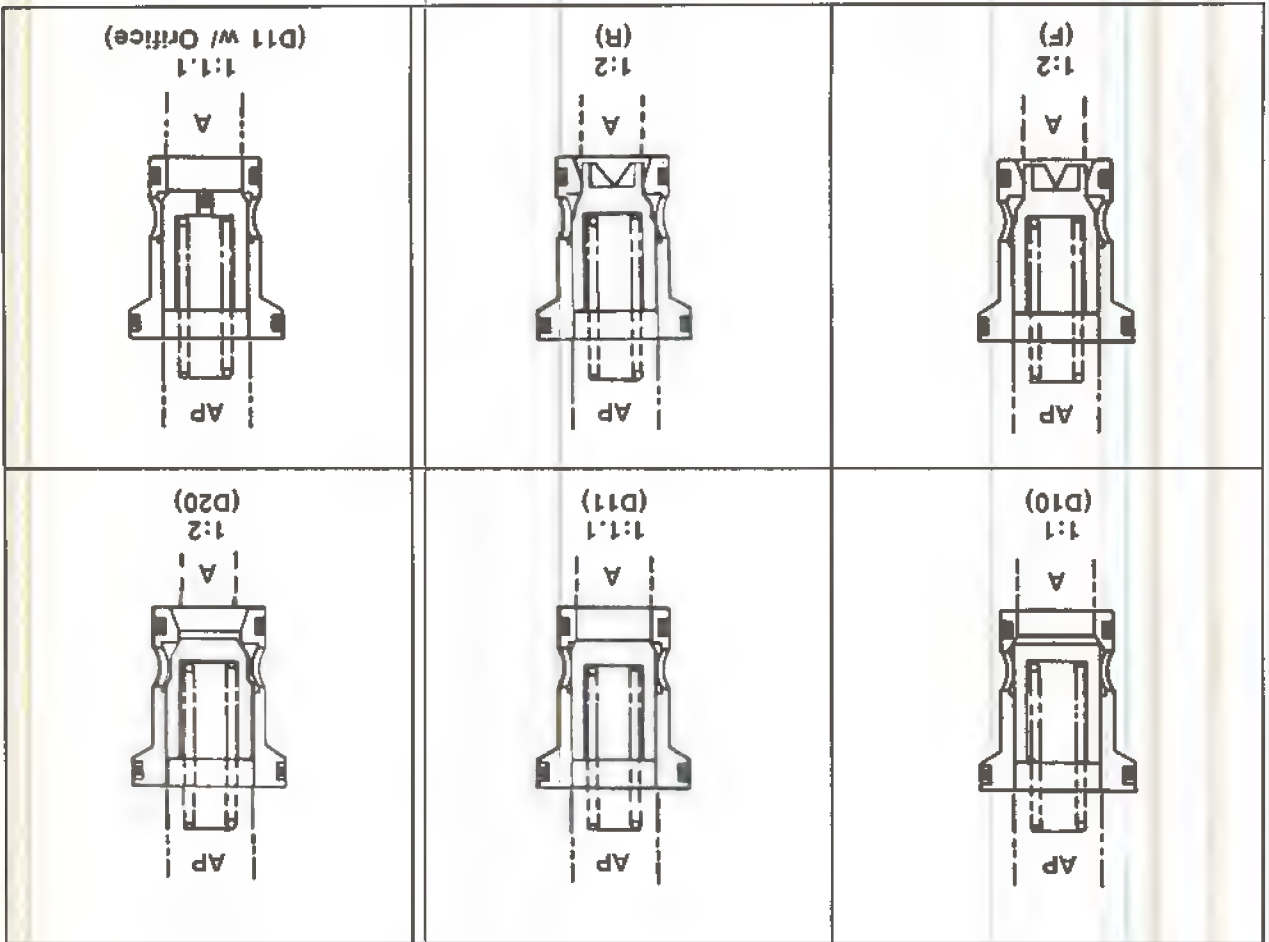

Figure 17. Poppet Area Ratios
- Determine the area ratio of the poppet. The poppet area ratio is determined by comparing (AP) area at the top of the poppet with the (A) area at the bottom of the poppet. For example, if the area at the top of the poppet is twice the area of the bottom portion of the poppet, the area ratio is 1:2. Three types of area ratios are available; 1:1, 1:1.1 and 1:2. Poppet area ratios are shown in figure 17.